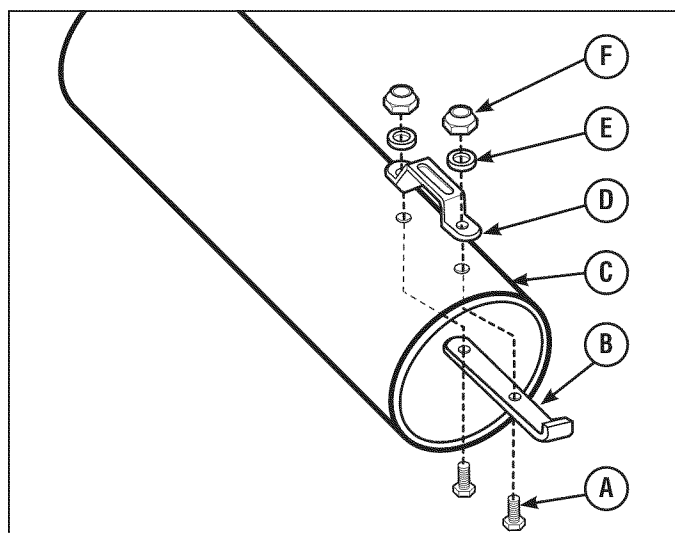

Figure 12
1. Insert bolts (A, Figure 12) through handle base (B), catcher tube (C) and handle (D).
2. Secure with locking washers (E) and hexnuts (F).